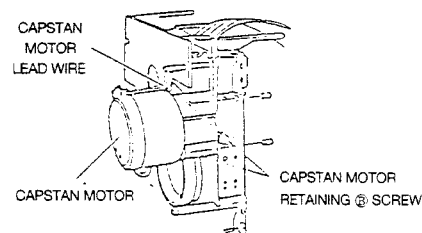

Fig. 6
- 1) Remove the CAPSTAN MOTOR RETAINING ⑥ SCREWS. (refer illustration Fig. 6)